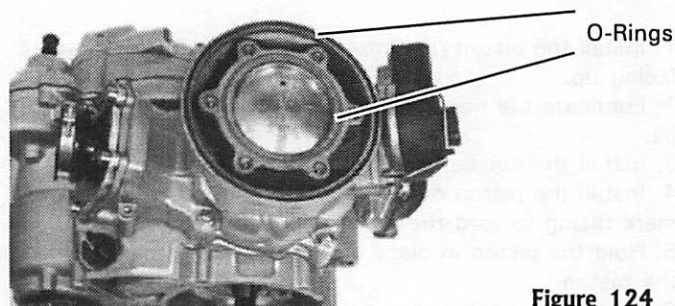

Figure 124
2. Install 2 new cylinder head O-rings (Figure 124).